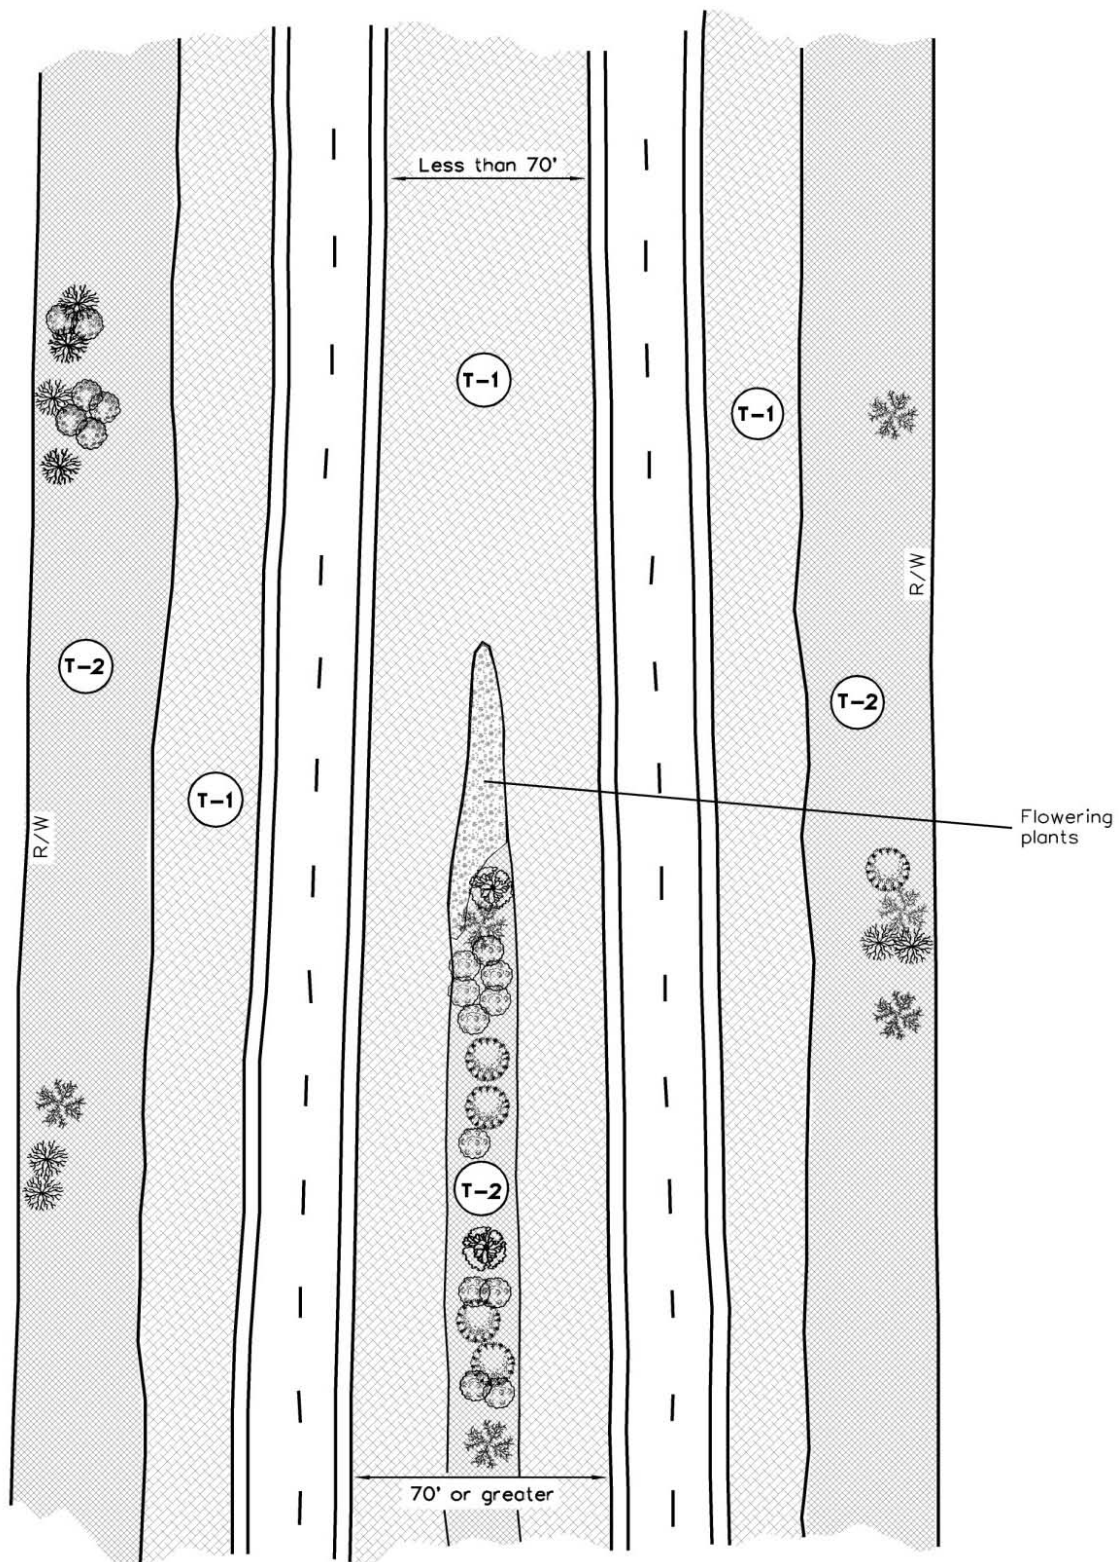

Figure 20. Median mowing limits: Rural arterial and all limited access (overhead view).
- a. All medians less than 70 feet wide should be mowed entirely (Figure 20).